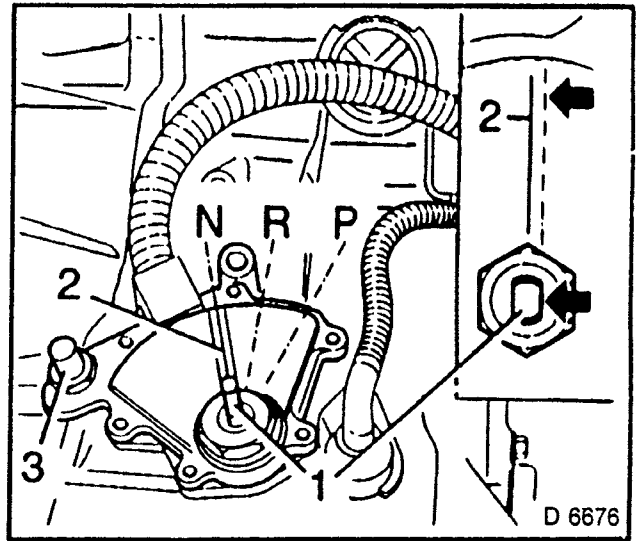
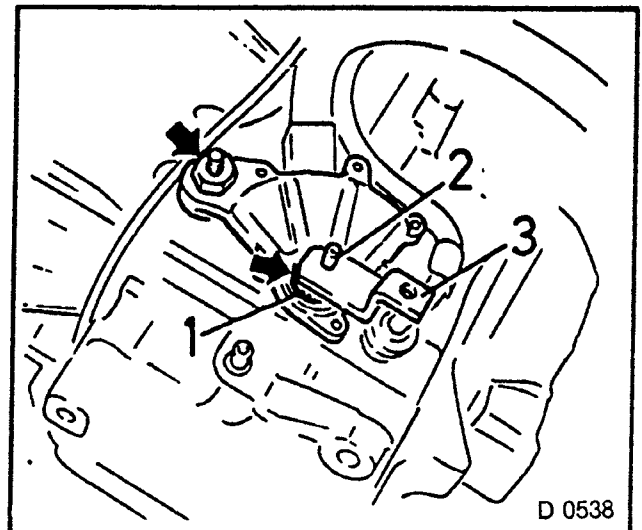

Fig. 538
Fig. 539
2. Place switch from above on selector lever shaft (1).
3. Selector lever shaft or actuation lever Fig. 539 Item 3 in neutral position — up to stop to the right, then turn back two notches (P, R, N — see Fig. 538).
4. Turn selector lever position switch so that the flattened surface of the selector lever shaft (arrows) runs parallel to the split (2) on the housing of the switch.
5. In this position, tighten the selector lever position switch to the transmission (3).